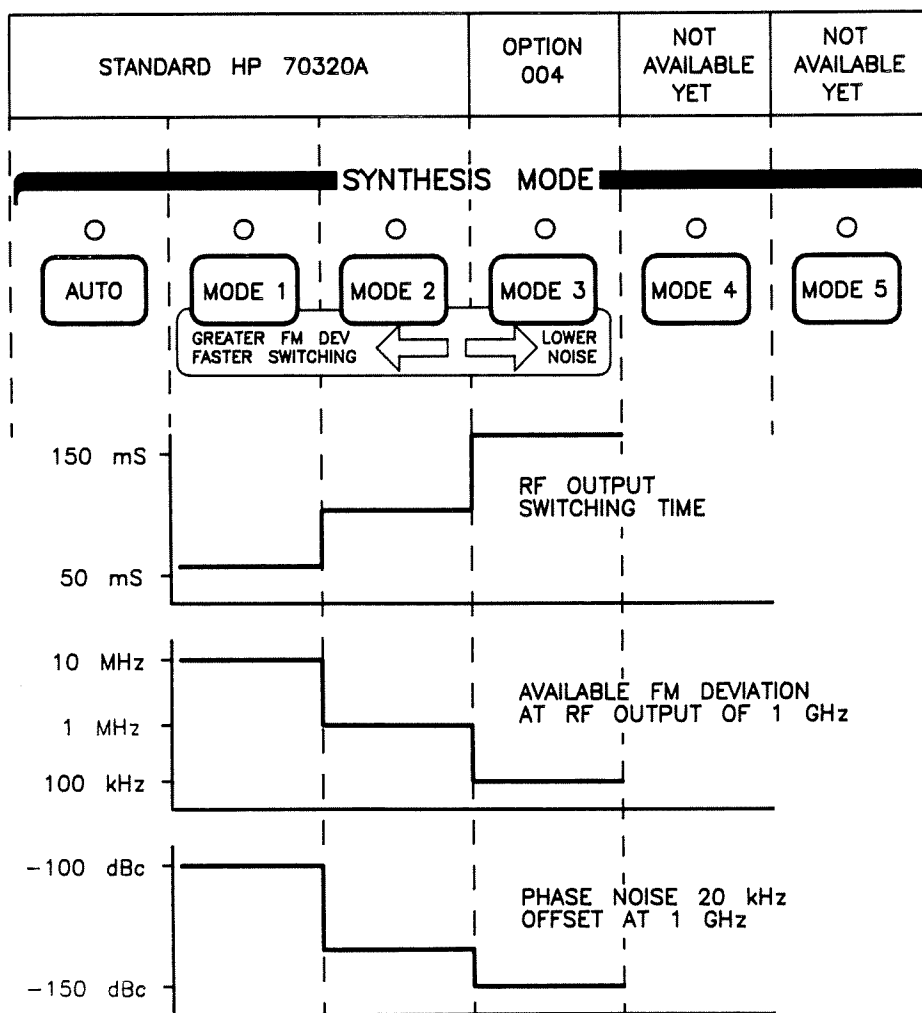

Figure 2-2. Modes of Operation for RF Output of 1 GHz.
In other applications, you may want the RF output to switch faster and have more FM deviation. In this case, press the **synthss modes** softkey of your choice. There are three basic factors to consider when you choose a "mode of operation," they are (1) switching speed, (2) FM deviation, and (3) phase noise. A typical comparison of these three factors for an RF output of 1 GHz is shown in figure 2-2: